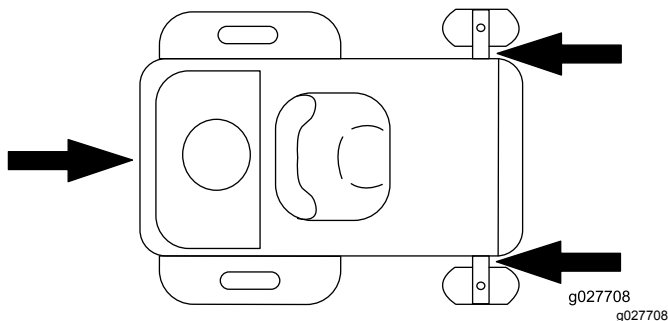

Figure 37
5. Tie down the machine near the front caster wheels and the rear bumper (Figure 37).